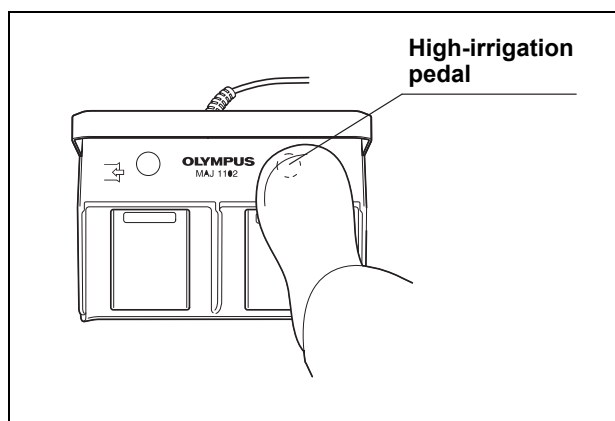

Figure 6.4
4. To clean the tissue, advance the probe tip toward the tissue and press the high-irrigation pedal of the foot switch (MAJ-1102) (see Figure 6.4).